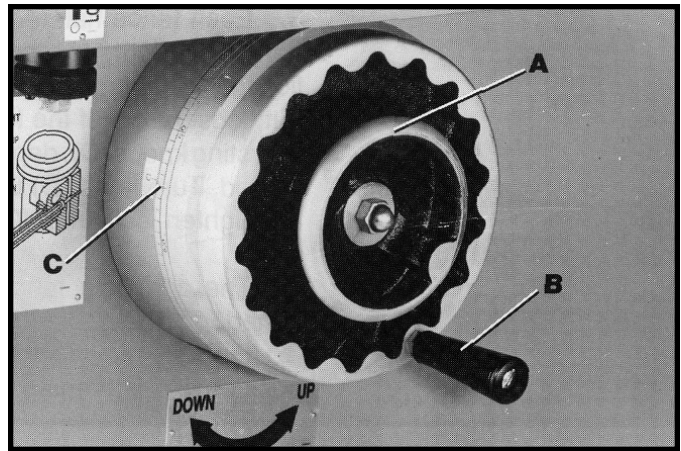

Fig. 29
The spindle can be raised or lowered by loosening handwheel lock (A) Fig. 29, and turning handwheel (B). To raise the spindle, turn handwheel (B) counterclockwise and to lower the spindle, turn handwheel (B) clockwise. Tighten handwheel lock (A) Fig. 29, when desired spindle height is obtained. NOTE: Each revolution of the handwheel (B) Fig. 29, will raise or lower the spindle approximately 1/10". The indicator (C) Fig. 29, serves as a handy reference point when making minor spindle height adjustments. IMPORTANT: Final height setting of the cutter should always be from the bottom to the up position.